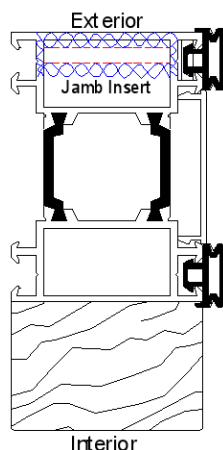

FIG 1.
- a) Identify the Left & Right jamb as per FIG 1 thru 3.